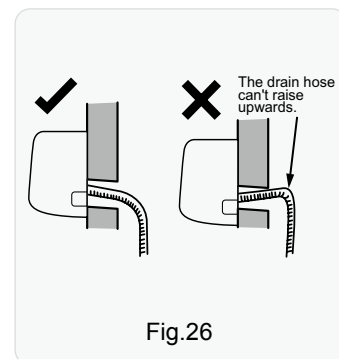

Fig.26
- The through-wall height of drain hose shouldnt be higher than the outlet pipe hole of indoor unit.(As show in Fig.26)